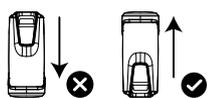

Figure 2:
- Mount the device upright. See Figure 2.